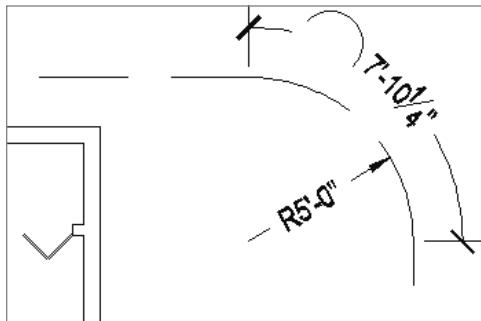

FIGURE 12.38 The Radius dimension after creating a child style
8. Using the Radius tool found on the Dimensions panel within the Annotate tab, redraw the same radial dimension you created earlier. The result should look like Figure 12.38.